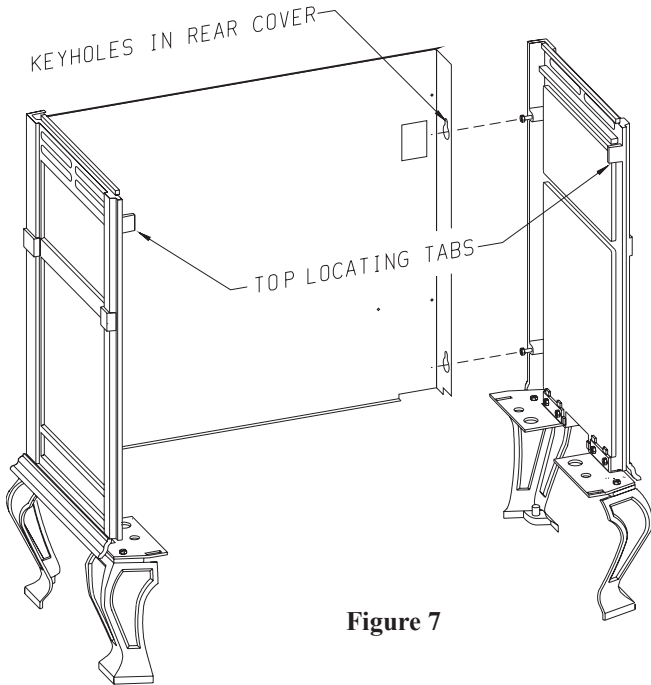

Figure 7
- B. Attaching rear cover to sides (Figure 7).
7. Refer to Figure 7, the rear cover has (4) keyholes for attachment to the casting sides. Stand the casting sides on the floor with the (2) bolts attached half-way into the edges of the rear cover positioned at the rear. The large diameter holes in the keyholes of the rear cover will be toward the floor. Working with one casting side at a time, place the large diameter holes in the keyholes over and behind both of the bolts at the same time. Push downward on the rear cover to lock the keyholes into position behind the bolts. Finish tightening both bolts to secure rear cover to casting side. Repeat this procedure to secure rear cover to the second casting side.